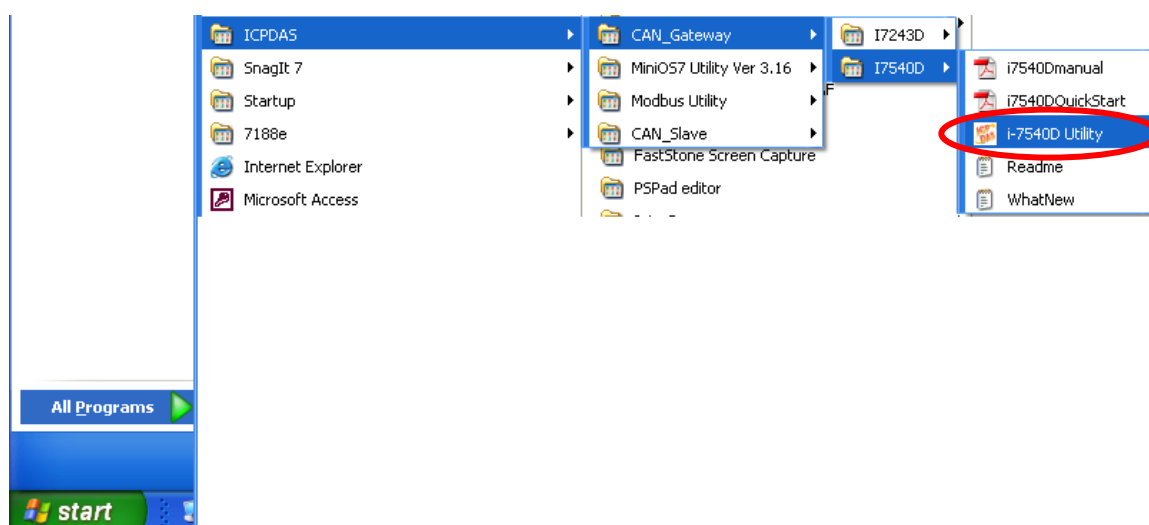

Figure 3-6: You can find “I-7540D Utility” at the “Start” in the task bar
Step 7: After finishing the installation of the I-7540D Utility, users can find it as shown in figure 3-6.